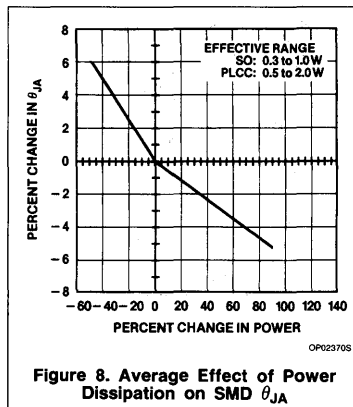

Figure 8. Average Effect of Power Dissipation on SMD θ_{JA}
The data presented in this application note was run at constant power dissipation for each package type. The power dissipation used is given under Test Conditions for each graph. Higher or lower power dissipation will have a slight effect on thermal resistance. The general trend of thermal resistance decreasing with increasing power is common to all packages. Figure 8 shows the average effect of power dissipation on SMD θ_{JA} .
2. Determine θ_{JA} @ 0.5W using Average Effect of Power Dissipation on AMD θ_{JA} , Figure 8.
From Figure 8: